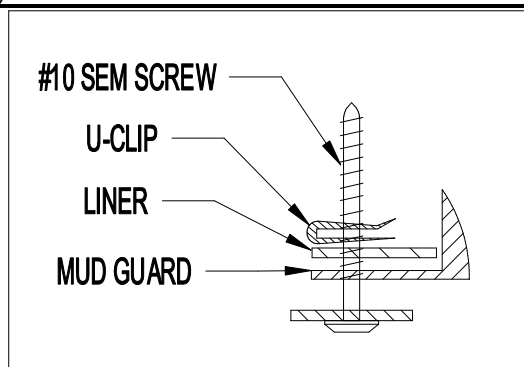

Figure 2
6. Install #10 SEM screw at location D, thru mud guard, fender liner and into a small U-clip placed on the backside of fender liner (Figure 2).
7. Install #10 SEM screw at location B, thru mud guard, fender and into a **small** U-clip placed on the backside of fender (Figure 2).